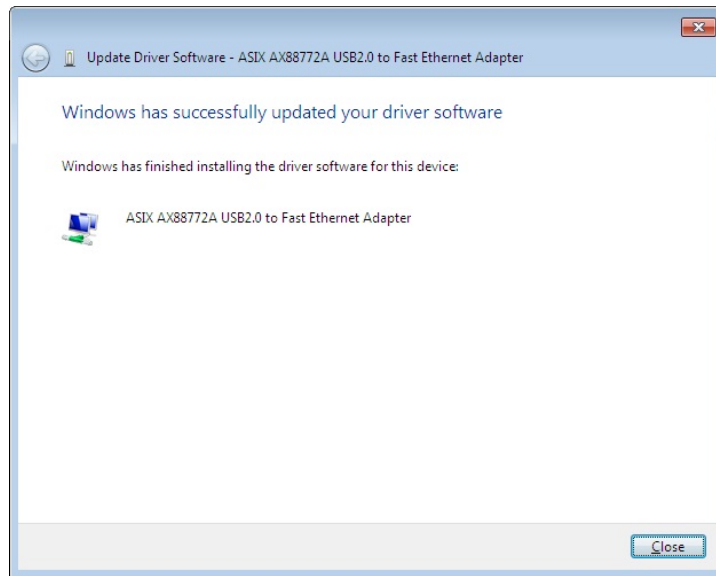

Figure 6-22: Driver Installation Complete Window
Step 17: After the driver installation process is complete, a confirmation screen appears (Figure 6-22).